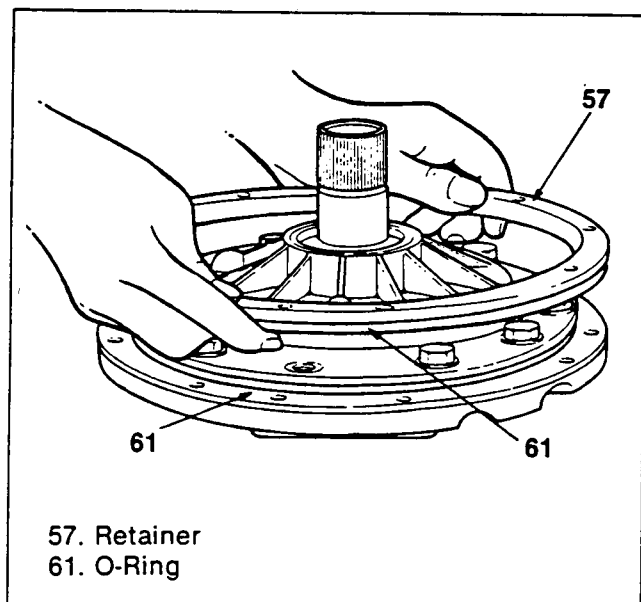

Figure 286. Oil Pump Installation (1)
Oil Pump (Figures 286, 287, 288 and 289)
1. Apply Vaseline to the O-ring around the oil pump outer surface and install the retainer (figure 286).